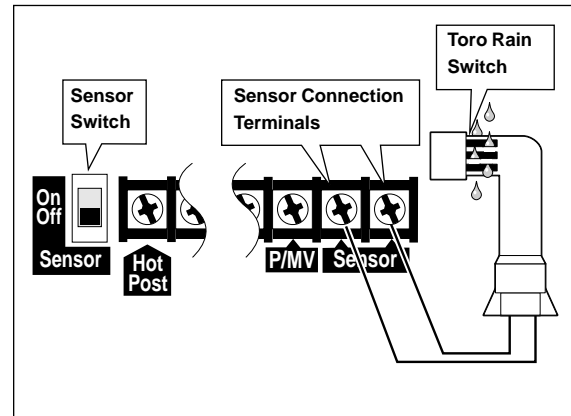

Figure 11 - Toro Rain Switch wiring diagram.
3. Attach the remaining two wires (in either order) to the Sensor terminals as shown in **Figure 11**.